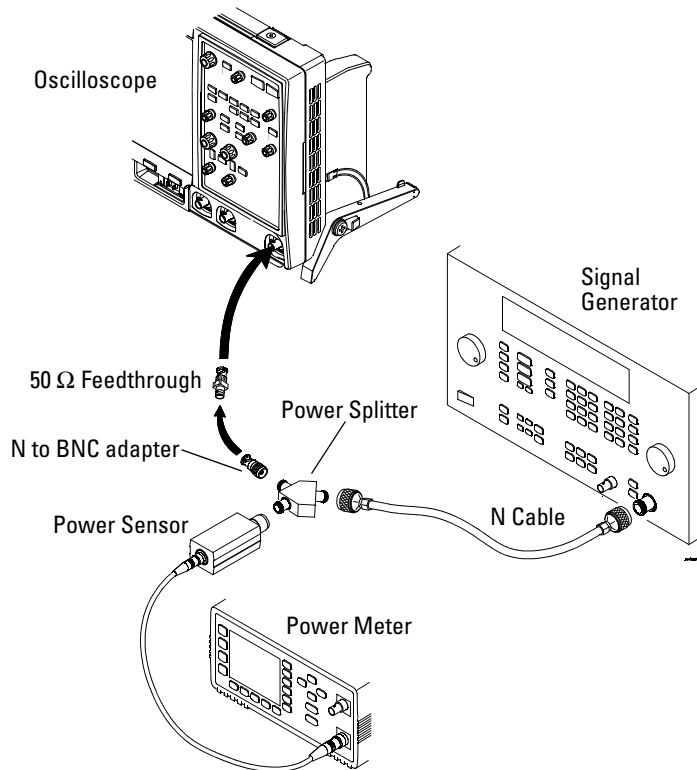

Figure 7 Setting Up Equipment for 2-Channel External Trigger Sensitivity Test
- 1 Connect the equipment (see Figure 7).